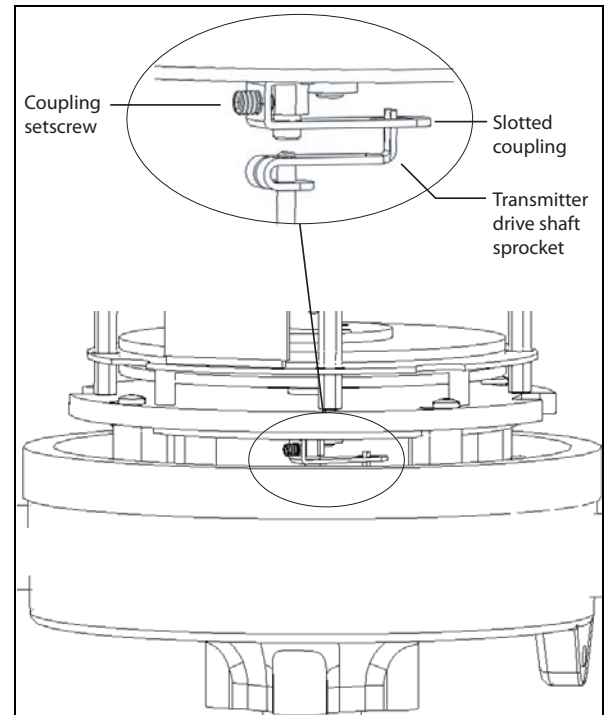

Figure 8–2: 2900 FTT Drive Shaft Coupling
2. Loosen the setscrew on the encoder driveshaft coupling, as shown in Figure 8–2. This allows the encoder to rotate freely without rotating the coupling.